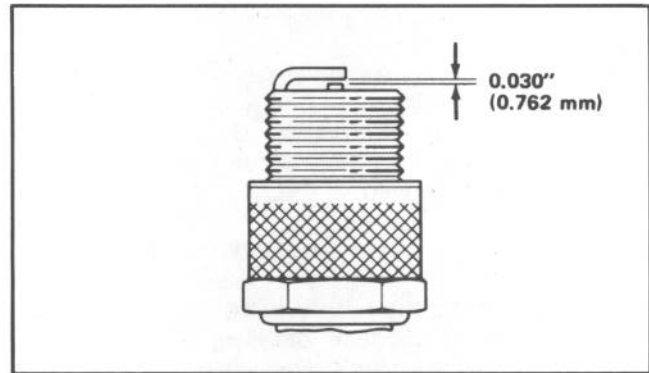

Figure 21
5. Set air gap between center and side electrodes at 0.030 of an inch (0.762 mm) (Fig. 21). Install correctly gapped spark plug w/gasket seal, and tighten plug to 15 ft-lb (20.4 N-m). If torque wrench is not used, tighten plug firmly.